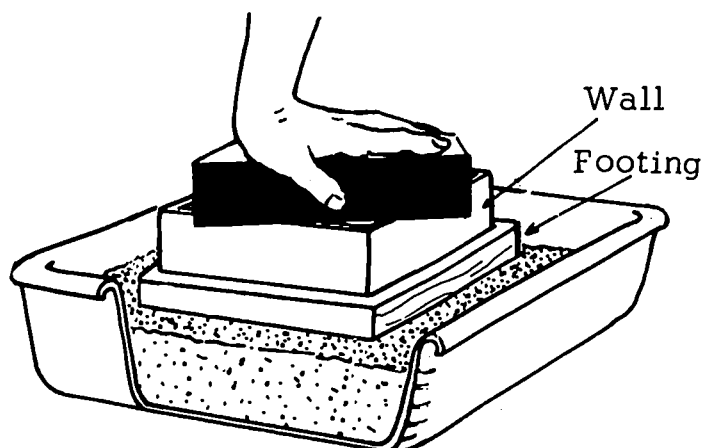

Fig. 37-2. Spread Footing in Place under Structure
7. Place the spread footing on the sand, Fig. 37-2.
9. Put the brick on top of the metal again and press down. See Fig. 37-2.